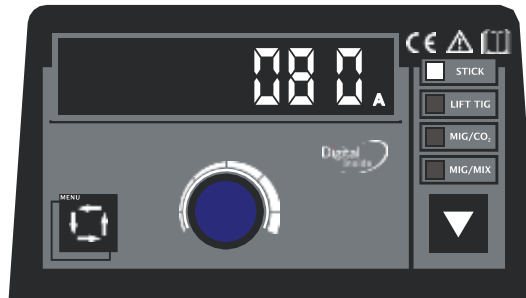

Fig. 2 Preset current display with VRD enabled under STICK mode
- When under STICK mode, pressing the 【VRD/2T/4T switch key】 for 5 second to selection the VRD function, the function is enabled when the indicator lights up, and displays in 【multifunctional data display】. Or, the VRD function is disabled when the indicator is off as shown in Fig. 2.